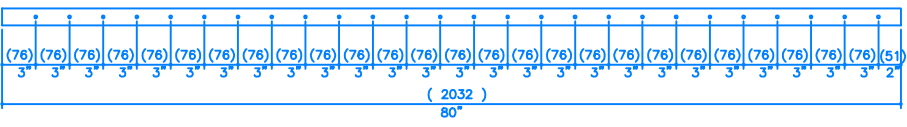

FIGURE 2
- Place three of the four pieces C together and clamp with two bar clamps. Ensure all the ends of the pieces are flush, and starting at the bottom, mark one of the pieces every 3" (Fig 2). Take a square and draw a line across all three pieces at your marks. This will ensure that all of your shelves will sit level. Remove bar clamps and mark each piece from top to bottom with a 3/4" centre line. This mark should be on the same face as previous marking. This will give you the exact centers for drilling your holes. Drill the holes with a 1/4" bit (assuming your brackets are 1/4" diameter), using the depth gauge (illustration 1), to achieve a 1/2" depth.